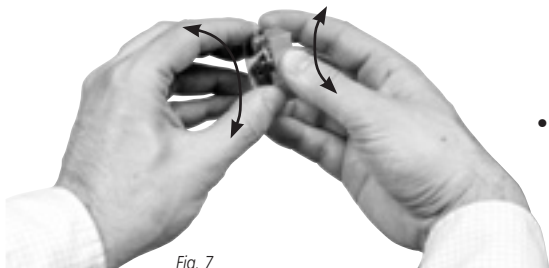

Fig. 7
- Spinning the cover in the same direction and holding the magazine in a vertical position continue placing the pellets until the all positions are filled. Once the magazine is full, spin the aluminum side in the opposite direction and return the magazine to its initial position. (Fig.7)